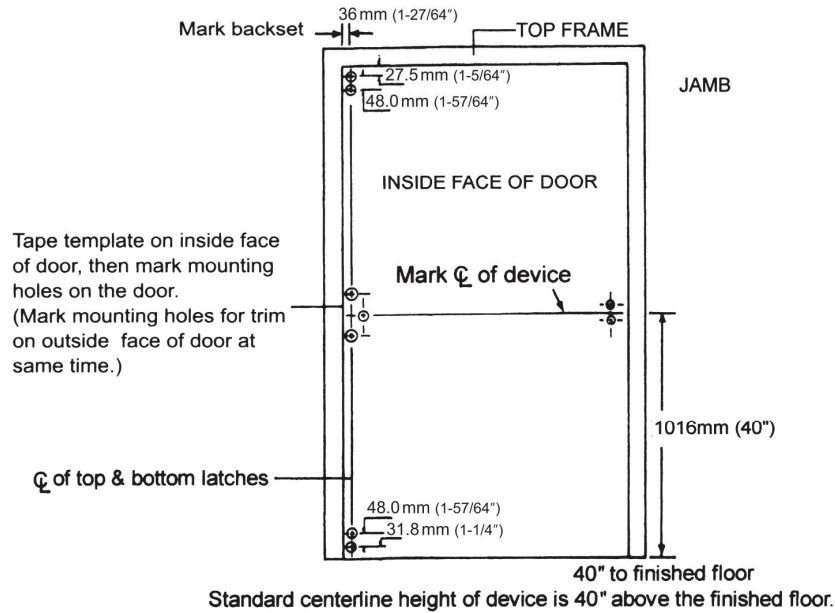

Figure 1
- Mark position of holes on the door using the templates. See Figure 1.